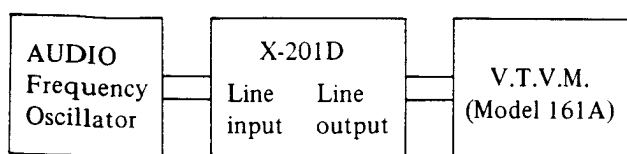

Fig. 12
- As shown in Fig. 12, connect an Audio Oscillator and Attenuator to the Line Input. Connect a High-sensitivity V.T.V.M. to the Line Output.